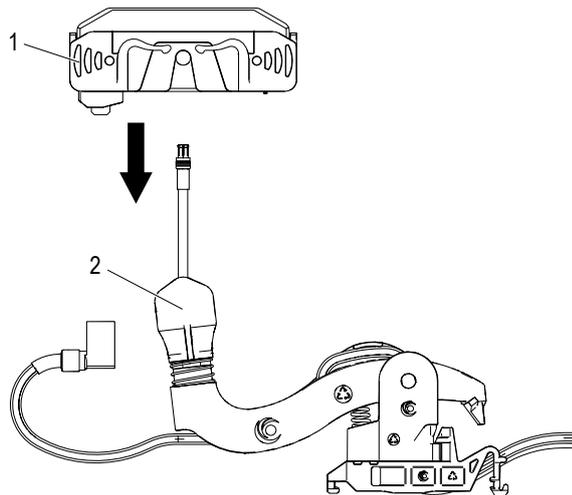

Fig. 177: Balance incl. sliding contact (1) is mounted
→ Mount new balance incl. sliding contact (1) on the joint of the collector arm (2) (see Fig. 177)